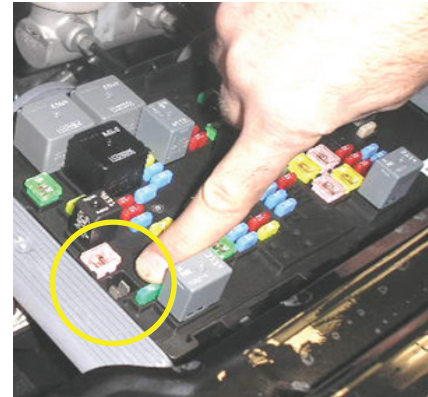

Figure 3
4. Install a 40-amp fuse to power the circuit (Fig. 3)